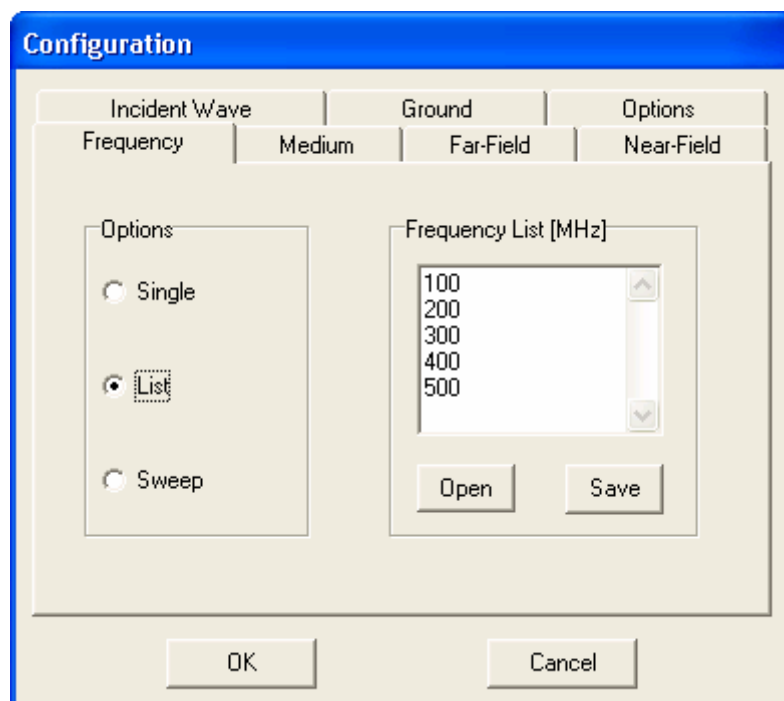

Fig. 4.2: Frequency page in the Configuration dialog box. A list of frequencies is entered.
- ❑ If **List** is chosen, write the list of frequencies in the “Frequency List” box, Fig. 4.2. A list from a text file can be read by pressing the Open button. The frequency list can also be saved to a text file by pressing the Save button.